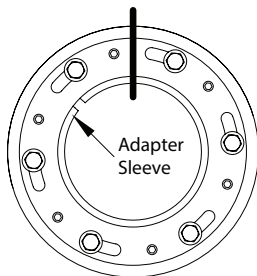

Figure 2 - Mark Face of External Nut and Adapter
4. **Important: Mark a line across the front and top of the adapter and external nut to be used as a location reference, see Figure 2. This is a critical point and represents the location of the nut assembly before the hex head bolts are tightened.**